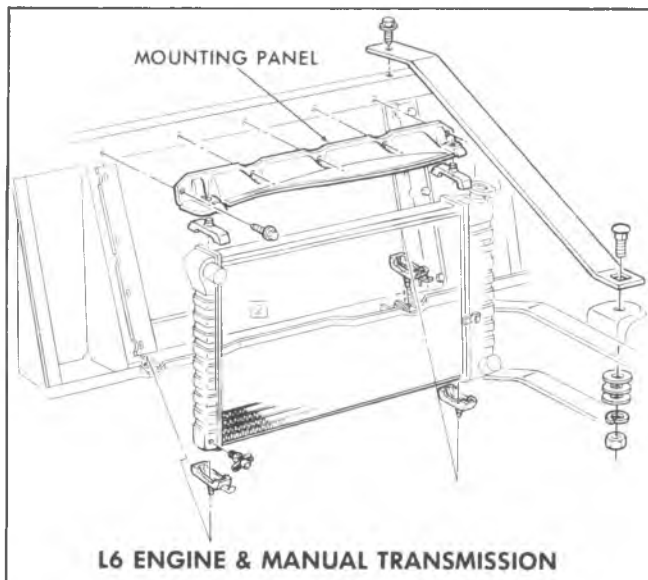

Fig. 1--Radiator Mounting - P20(42)
Refer to Figure 1 through 4 for radiator assembly positions for C, K, G and P30(42) Series vehicles.
The Monojet carburetor is a single bore downdraft carburetor (fig. 1) using a triple venturi in conjunction with a plain tube nozzle.
The carburetor model identification is stamped on a vertical portion of float bowl, adjacent to fuel inlet nut (Figure 1). If replacing float bowl, follow manufacturer's instructions contained in the service package so that the identification number can be transferred to the new float bowl.